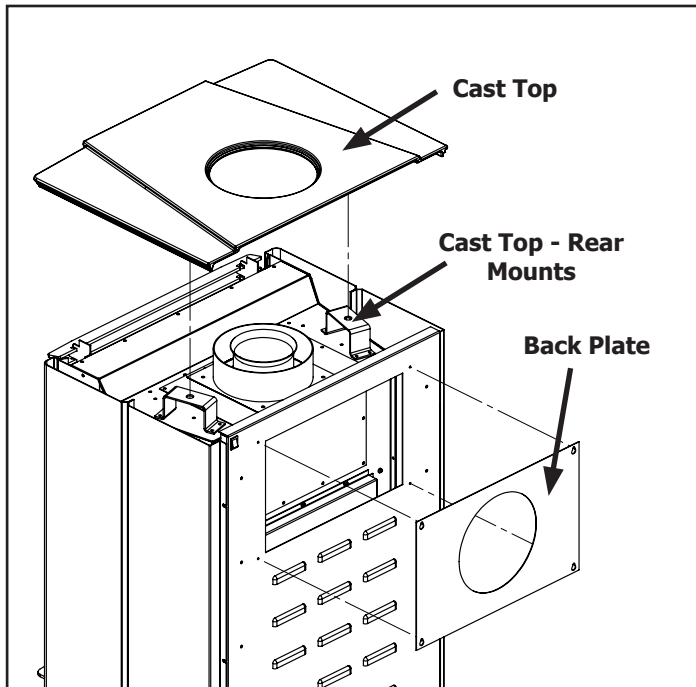
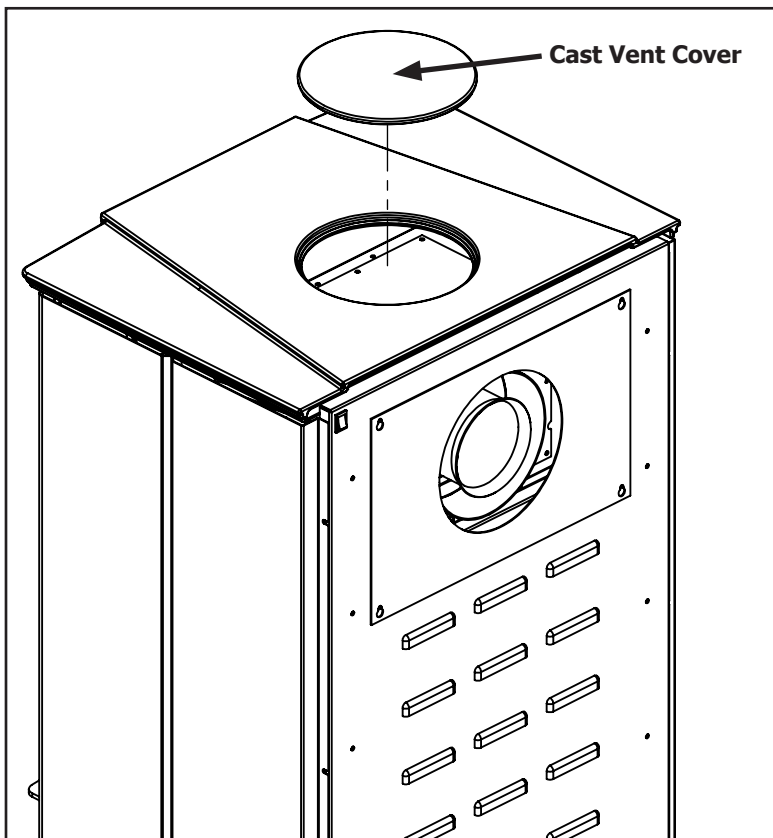

Figure 17. Vent Conversion - Step 1
Figure 20. Vent Conversion - Step 4
Step 1: Using a T20 screwdriver loosen the four screws retaining the back plate and unhook it. Then remove the cast top by simply lifting up as shown in Figure 17.
Step 4: Re-install the cast top by aligning the bolt heads on the bottom side with the rear mounts (see Figure 17). Re-install the back plate and tighten the four retaining screws. Finally, install the cast vent cover supplied with the S30 as shown in Figure 20.